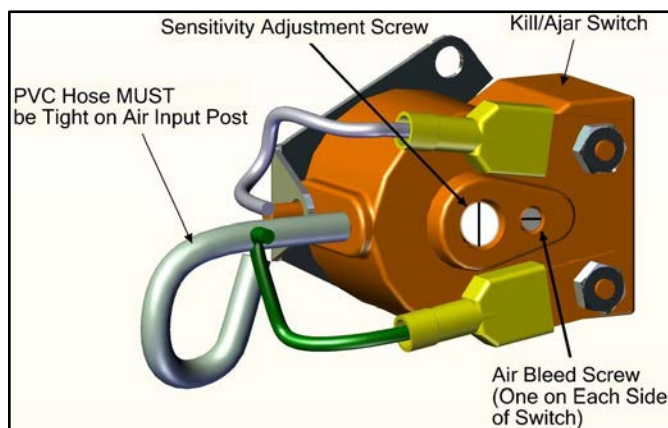

Figure 29
2. Make sure the clear PVC hose is tight on the air input post so that air leakage cannot occur and vibration will not cause the hose to fall off. Also make sure the hose is not kinked. (See Figure 29.)
3. The air bleed has been set at the factory and should not require adjustment. If adjustment is necessary, turn the air bleed adjustment screws located on the front and back of the switch fully clockwise — but do not overtighten. Then turn each screw back (counterclockwise) one full turn. (See Figure 29.)